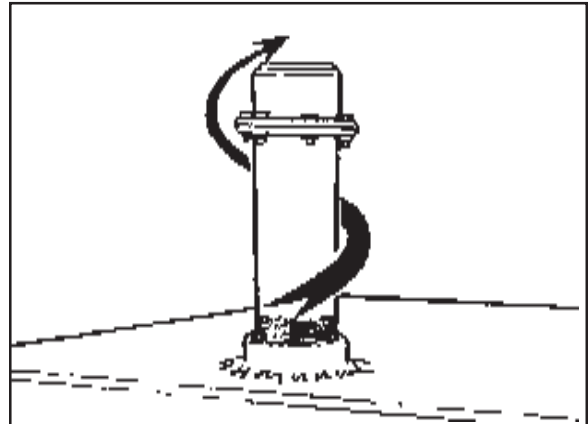

Figure 29
2. Remove Filler Cap. Remove Filler cap only when ready to fill hydraulic Tank with Oil. Do Not leave the Cap off and the system Open, always keep system closed when possible. Avoid any oil contamination. (See Figure 29)